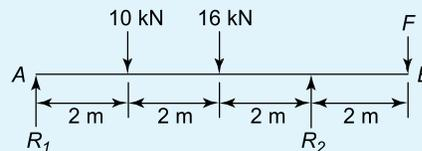

Figure 5.19
4. A simply supported beam  $AB$  is loaded as shown in Figure 5.19. Determine the load  $F$  in order that the reaction at  $A$  is zero. [36 kN]